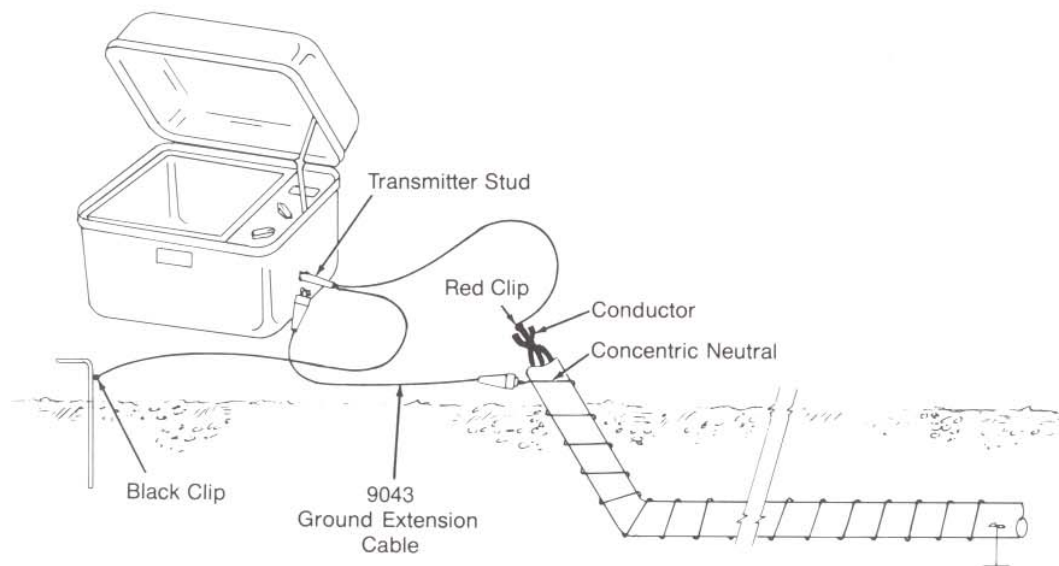

Fig. 15 — 573A/P Attachment: Transmitter Stud to Concentric Neutral
- 3) Connect the 9043 Ground Extension Cable between the cable neutral and the stud below the Transmitter Output Jack (see Fig. 15). This attachment will place a fault locating signal on the conductor while simultaneously pushing AUDIO tone down the neutral the length of the test section, allowing the operator to locate the entire section path.